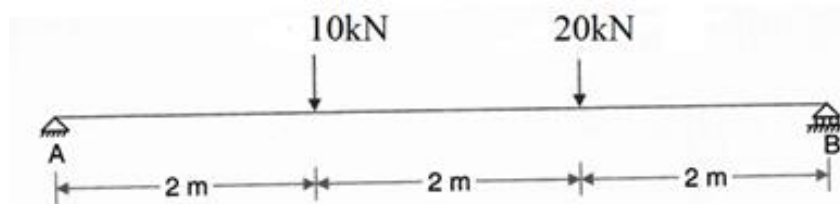

Fig.7
b) Determine the support reactions for the beam shown in Fig.7 by applying principle (5)